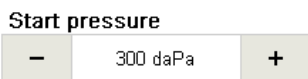

Figure 142
**Start pressure:** the pressure that is first introduced when performing **ETF – Perforated** measurement (Figure 142). This is a default setting and can be configured within the test screen.